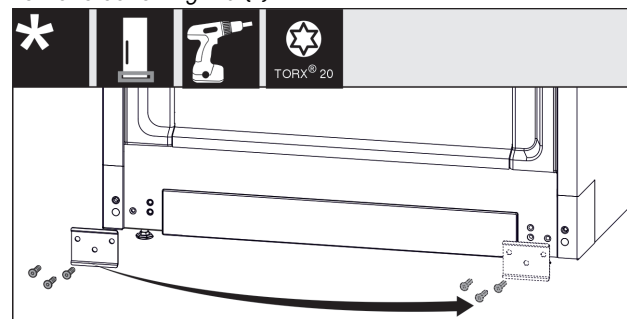

Fig. 21
- Unscrew the plate Fig. 21 (1), move it to the other side and screw it back on.